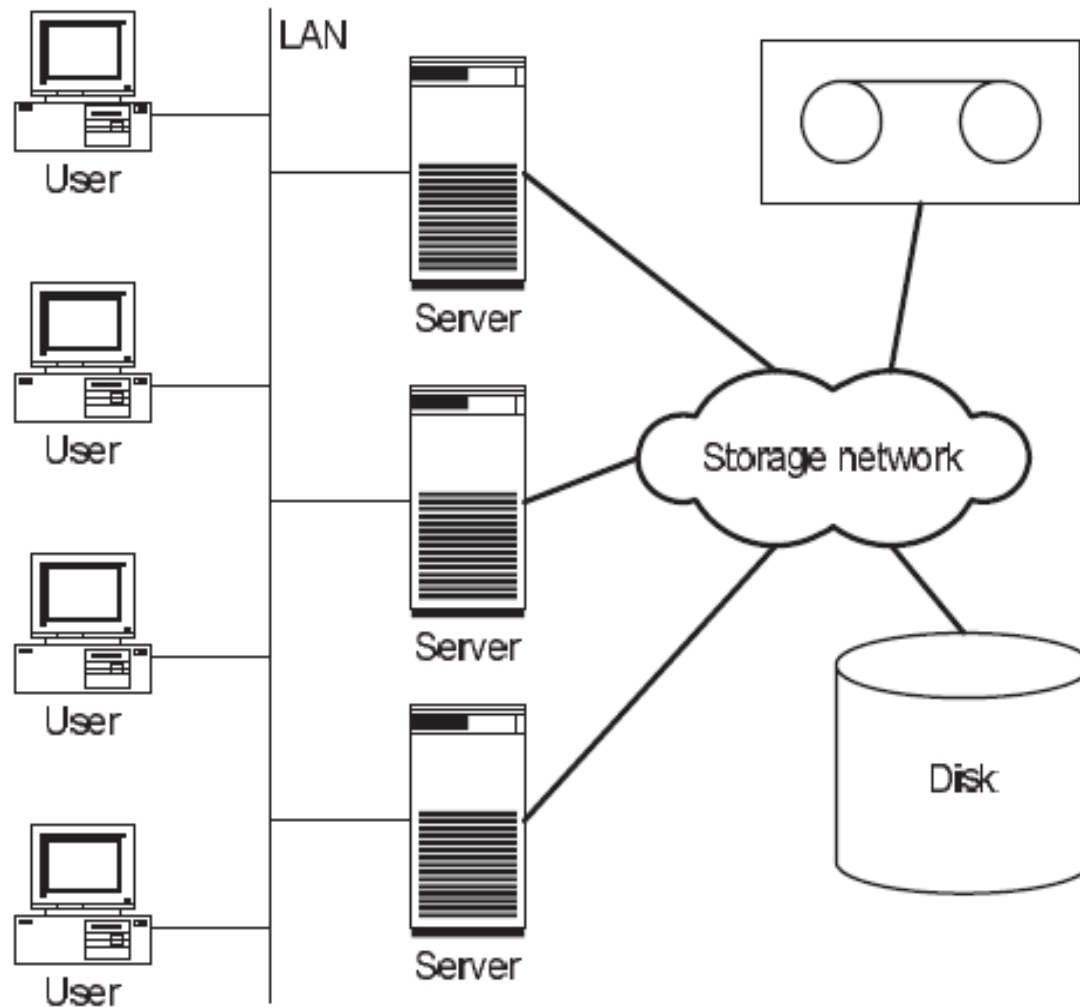

Figure 1.3 In storage-centric IT architecture the SCSI cables are replaced by a network. Storage devices now exist independently of a server
- The idea behind storage networks is that the *SCSI cable* is replaced by a network that is installed *in addition to the existing LAN* and is primarily used for data exchange between computers and storage devices (Figure 1.3).